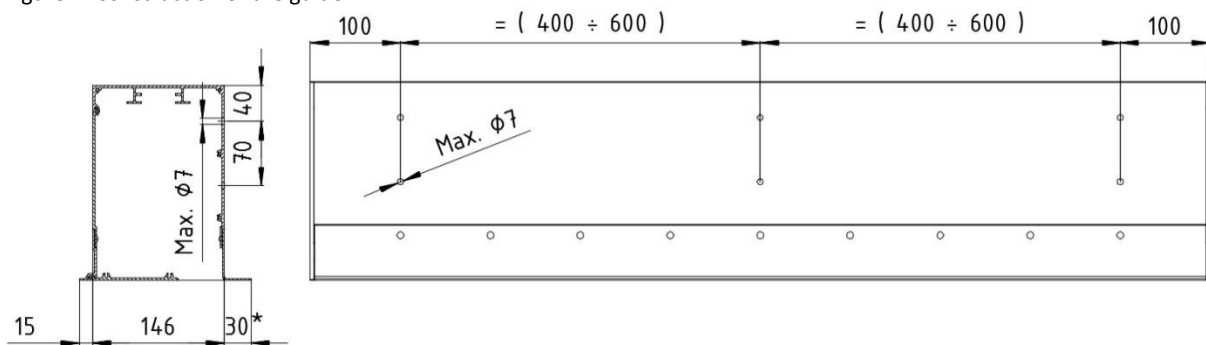

Fig. 8. Scheme for making mounting holes in a flush-mounted cassette. \* - dimension variable, standard 30 mm.
- The flush-mounted cassette is delivered without pre-drilled mounting holes. These must be drilled yourself in accordance with the instructions below (Fig. 8). A minimum of 3 mounting holes are required for every 1 m of cassette length.
4. Drill mounting holes in the flush-mounted tray in accordance with Fig. 8.